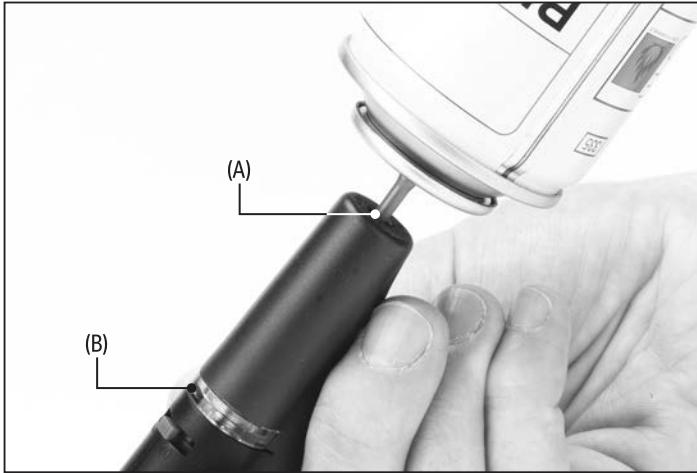

Fig. 1
Turn the torch upside-down and push the butane can nozzle firmly into the filling valve (A) (Fig. 1).